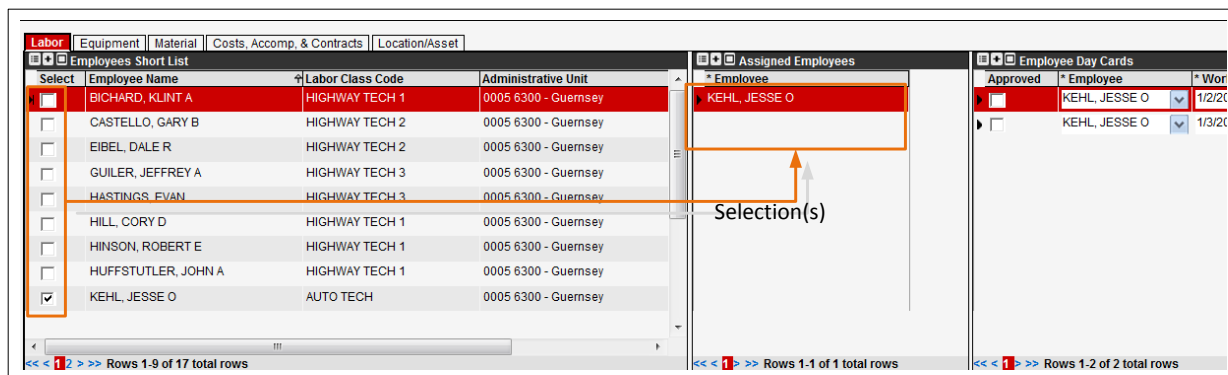

Figure 4-16. Day Cards – Work Order Resource Assignment Example
1. Apply a checkmark to any Short List item appearing under Labor, Equipment, or Materials. This causes the selection to appear in the middle pane as an assignment (Figure 4-16)